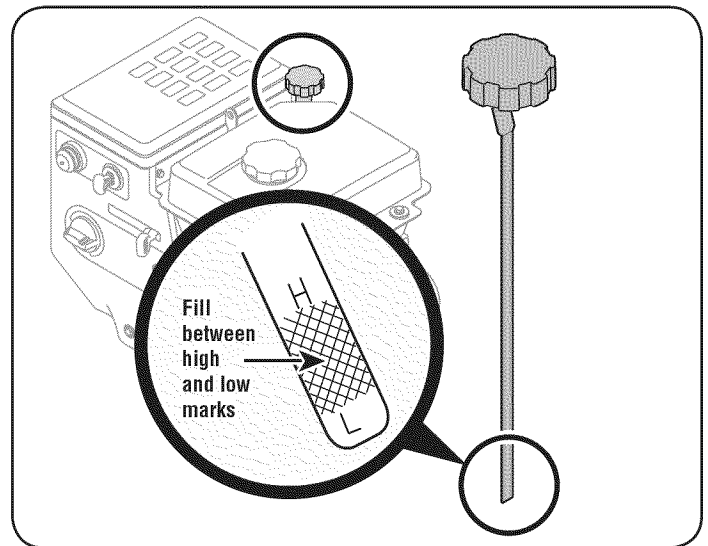

Figure 11
- Keep oil level between “H” and “L” marks on dipstick. See Figure 11.
1. Remove the oil filler cap/dipstick and wipe the dipstick clean. See Figure 11.
3. Remove the oil filler cap/dipstick. If the level is low, slowly add oil until oil level registers between high (H) and low (L), Figure 11.